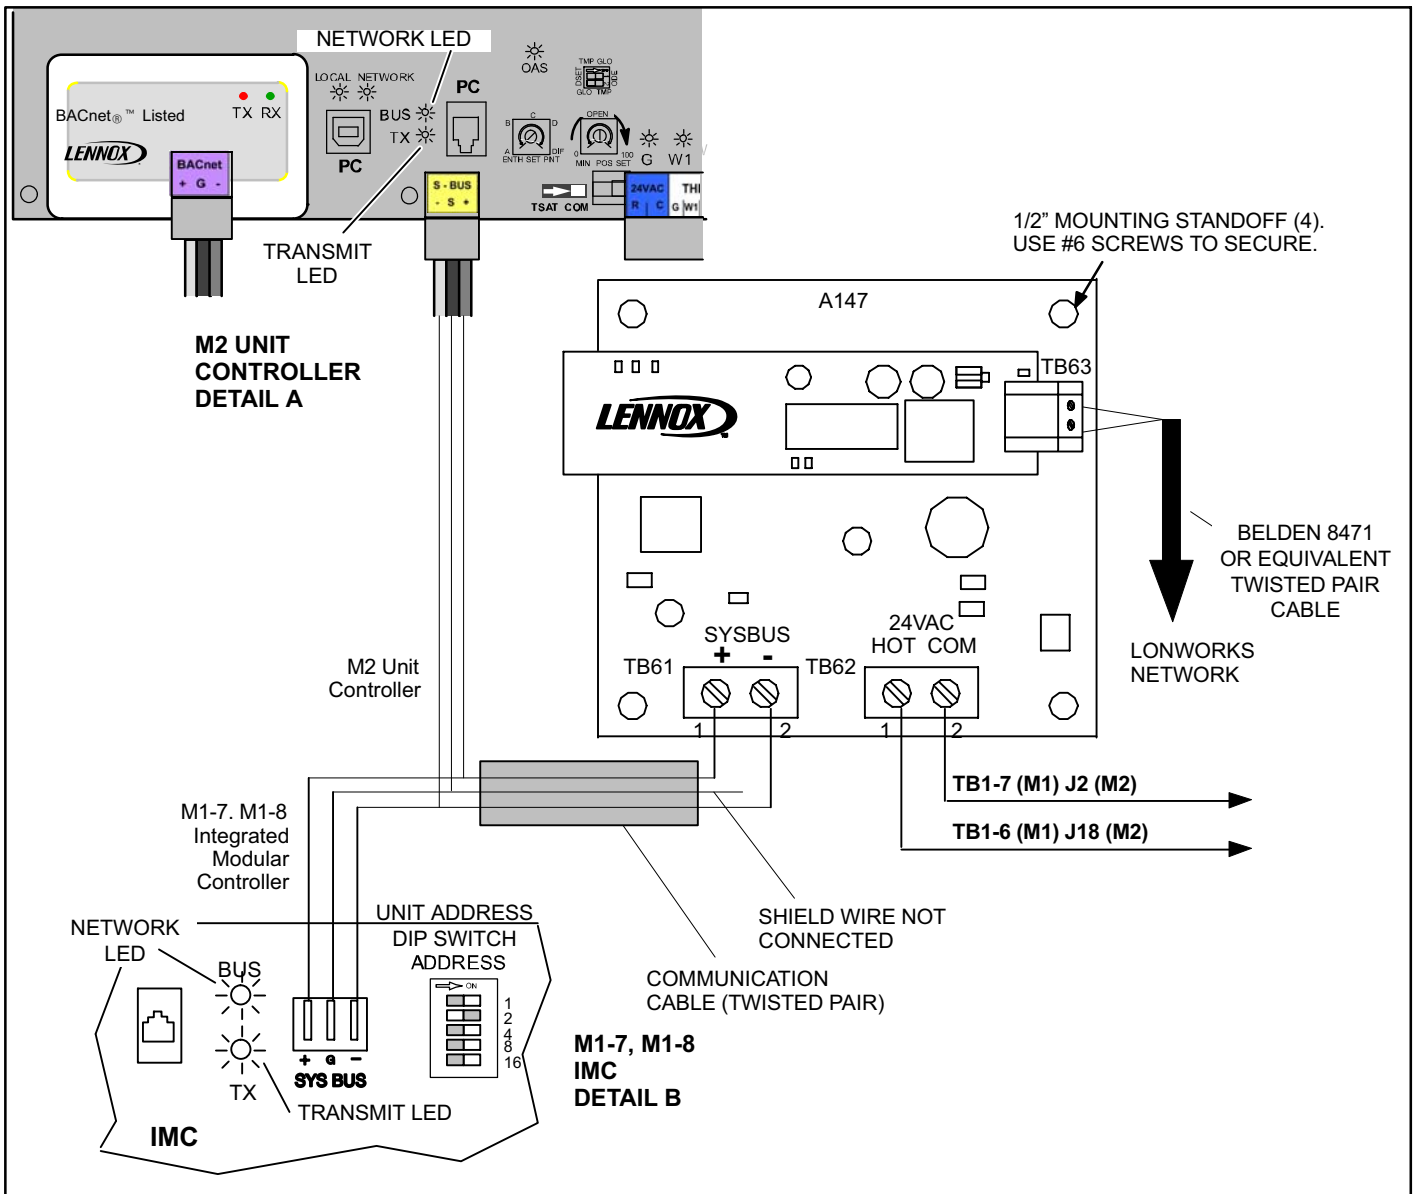

Figure 6. LonTALK Module Wiring
4. Route the SYSBUS network cable to the IMC SYSBUS terminal block. Secure network cable away from all power cables. Connect the cable shield drain wire to the "G" terminal on the controller. Do not connect the cable shield drain wire to the LonTalk module (see figure 6).
Use the following table as a guide once the controller and LonTalk Module are connected and powered (LEDs are shown in Details A and B in figure 6).